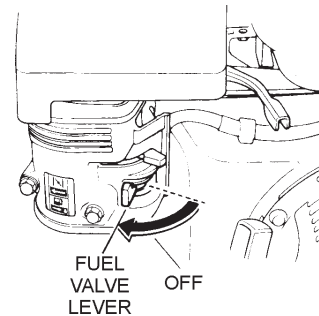

Figure 24. Fuel Valve Lever (OFF)
5. Place the **fuel shut-off lever** (Figure 24) in the **OFF** position.